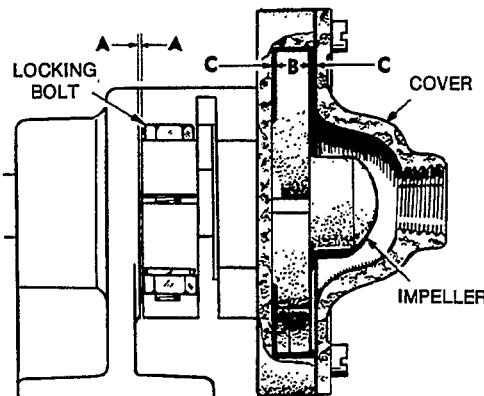

FIGURE 20. WATER PUMP CLEARANCES
After the pump has been assembled (see Figure 20), the impeller (B) must be centered in the body cover space (C-C). Adjustment is made by moving the pump body fore and aft until the shaft can be rotated freely by hand, without binding. The pump must be adjusted with the drive belt off. If not centered properly, the impeller will rub on the body or cover and quickly overheat. Clearance (A-A) may vary from zero to 1/16 inch (1.6 mm). Tighten lock screw when adjustment is correct, being careful not to alter setting.